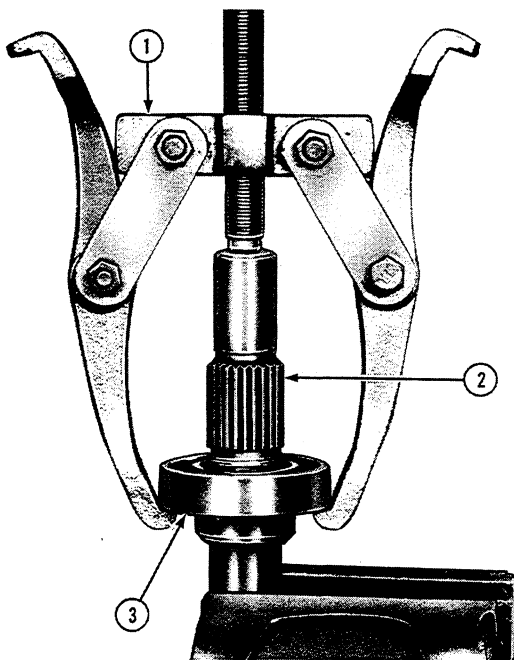
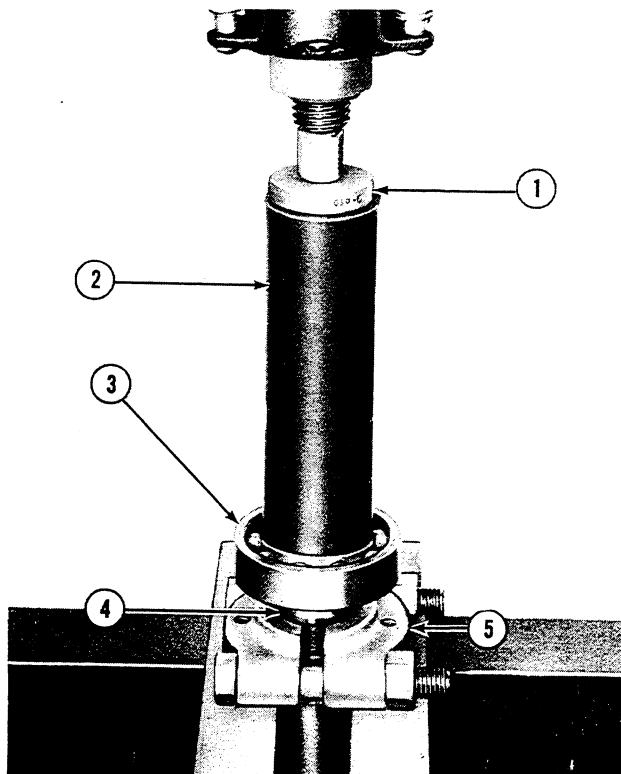

Figure 22
Figure 23
2. Inspect the PTO bearing for wear or damage. If necessary, remove the lock ring (1), Figure 18, securing the bearing on the shaft and remove the bearing. Use Tool Number 1002 as shown in Figure 22. Install a new bearing using a sleeve of convenient length and appropriate diameter, and Tool No. 951 as shown in Figure 23. Install both lock rings to secure the bearing.